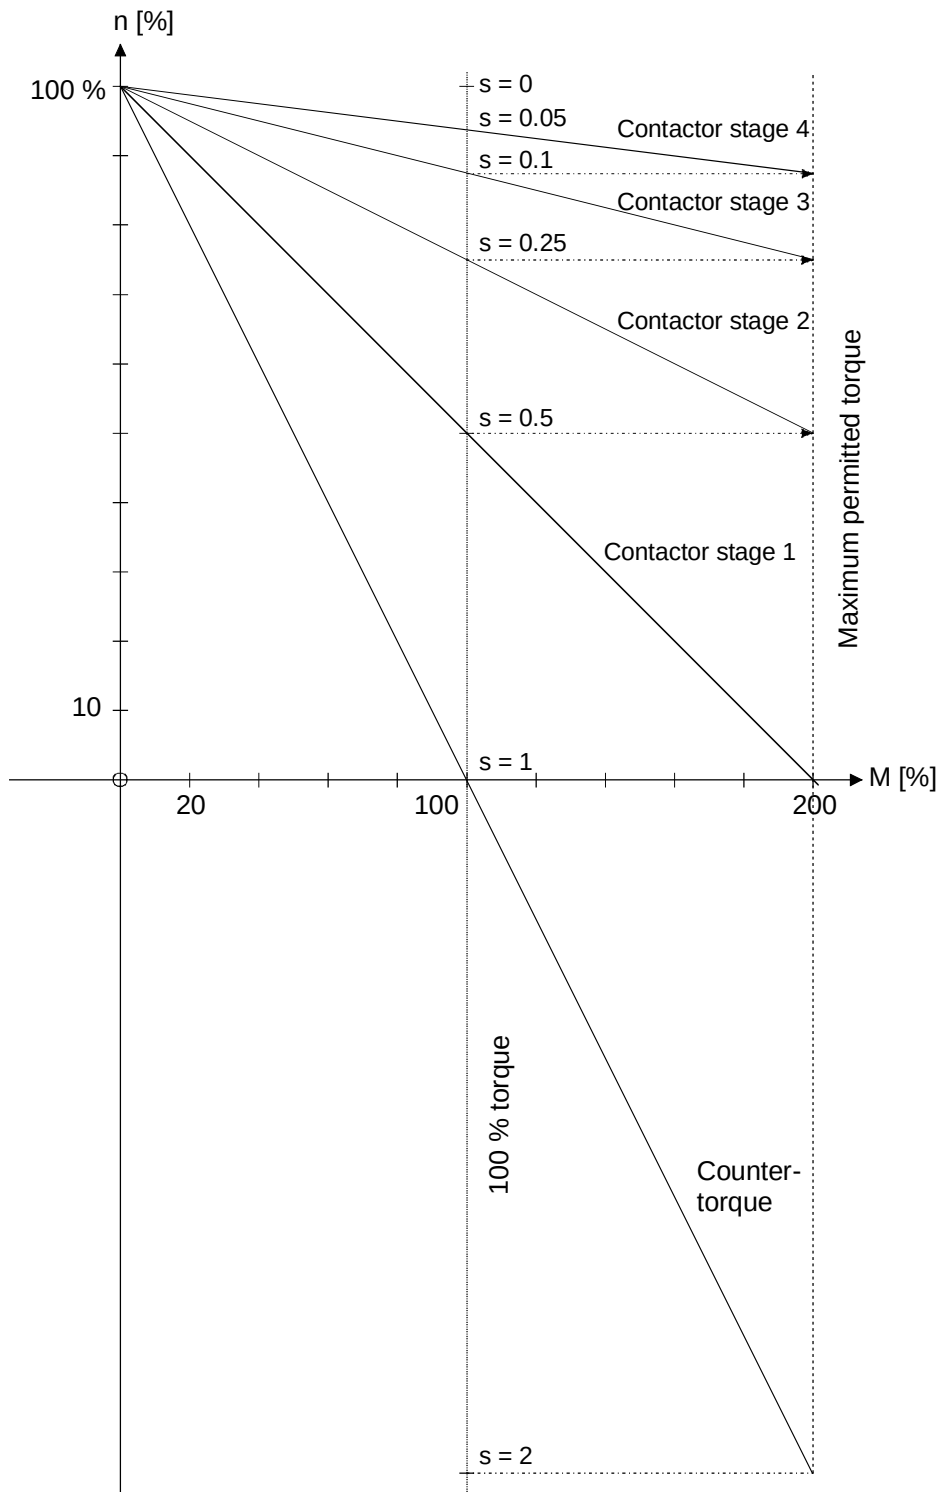

Figure 2, Speed-torque diagram with 4 contactor stages
Notes to Figure 2
- s: slip, see Figure 2, speed-torque diagram.
The notes to Figure 2 apply accordingly.